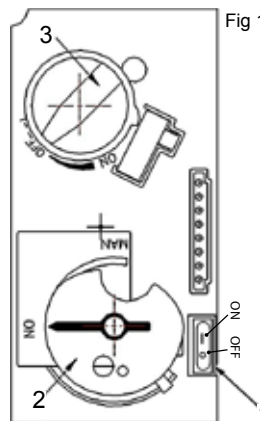
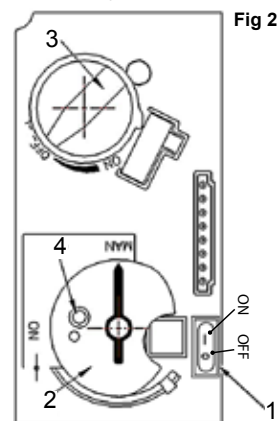

Fig 1
Fig 2
2. **SET ON/OFF SWITCH (1) TO "OFF" POSITION.**
- Wait five (5) minutes to clear out any gas, then smell for gas, including near the floor. **If you smell gas, STOP!** Follow "B" in the safety information above on this label. If you don't smell gas, go to the next step.
3. **AUTOMATIC IGNITION** (Fig. 1): Locate the pilot (Fig. 3.) inside of firebox at left hand side.
- ON/OFF switch (1) in ON position, MAN-knob (2) in ON position; set Flame Adjustment knob (3) to lowest setting (U).
- When the pilot is lit, the Flame Adjustment knob (3) will automatically rotate to the highest setting.
4. **MANUAL IGNITION** (Fig. 2): With the window off, locate the pilot (Fig. 3) inside of firebox at left hand side.
- ON/OFF switch (1) in ON position, MAN-knob (2) in MAN position.
- Set Flame Adjustment knob (3) to the lowest setting (U).
- Push down the metallic core (4) with a pen or similar instrument; this will establish the pilot gas flow.
- Light gas at the pilot (5) with a match.
- Continue holding down metal core (4) for about 10 seconds; after release, pilot should remain lit.
- If the pilot will not stay lit after several tries, turn the gas control knob (3) to OFF (U) and call your local service technician or gas supplier.
- Reinstall the window and set the MAN-knob (2) to ON; turn Flame Adjustment knob (3) up (Δ) or down (▽) manually or use the up/down (Δ)(▽) buttons on the remote control handset to adjust the flame height.